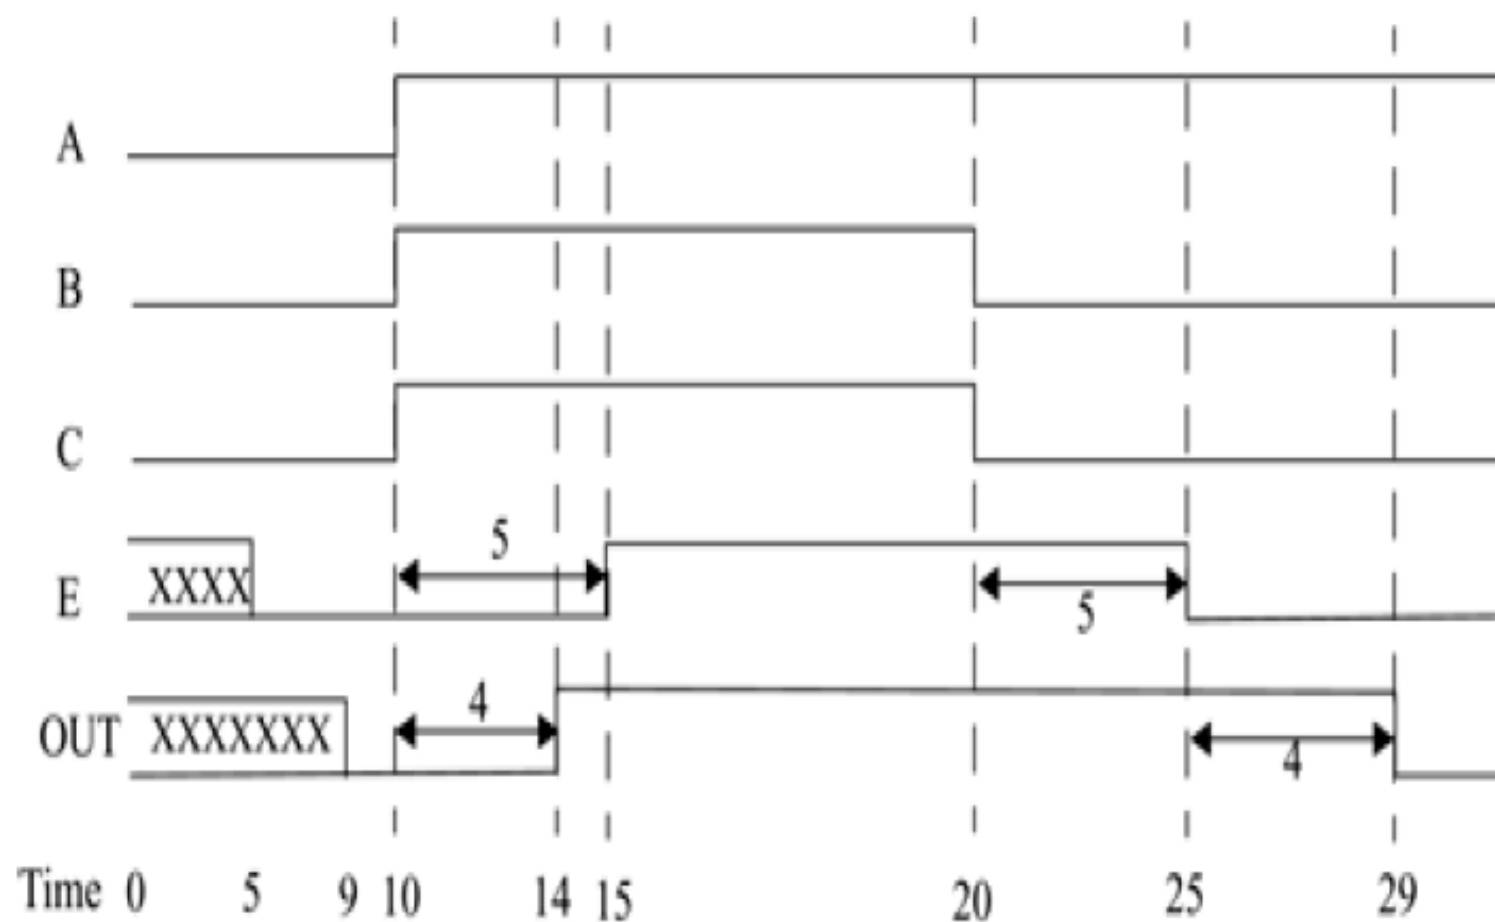

Figure 3-9. Waveforms for Delay Simulation of module D
- The waveforms from the simulation are shown in Figure 3-9 to illustrate the effect of specifying delays on